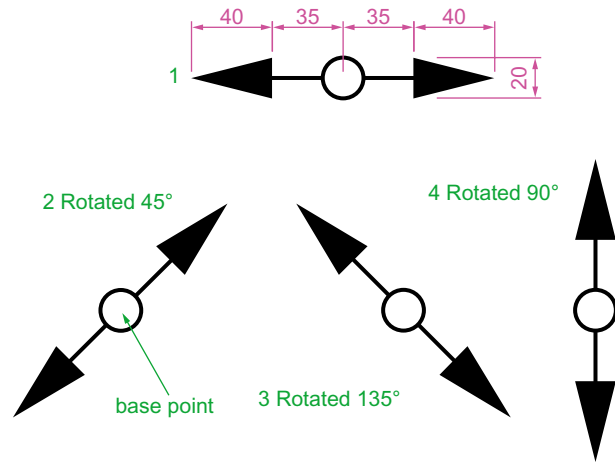

Fig. 5.27 Example – Rotate
### Example – Rotate (Fig. 5.27)
1. Construct drawing **1** of Fig. 5.27 with **Polyline**. Copy the drawing **1** three times (Fig. 5.27).
3. Repeat for drawings **3** and **4** rotating as shown in Fig. 5.27.